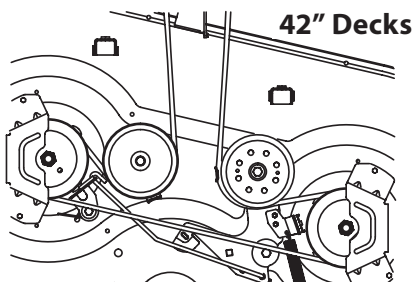
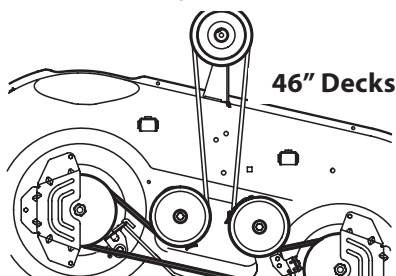
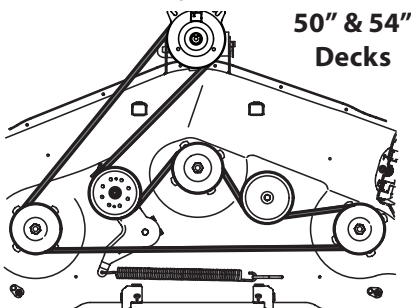

Figure 52
Figure 53
Figure 54
4. Route the new belt as shown in the applicable figure below. See Figure 52 for 42" decks, Figure 53 for 46" decks and Figure 54 for 50" & 54" decks.